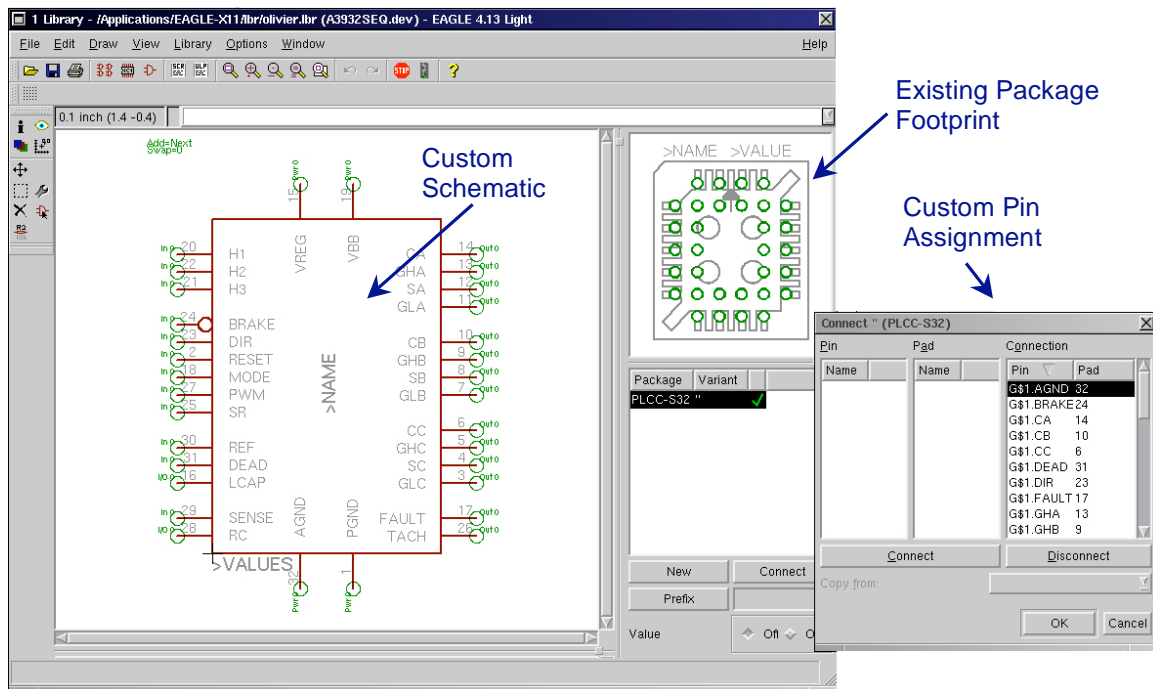

Figure 5: Creating a custom device in *Eagle* using an existing PLCC-S32 footprint.
Eagle contains a vast collection of parts in the default libraries however it is likely that certain parts may not exist. If this is the case, a custom device must be created. The most time consuming part of creating a custom device is defining the package footprint. In the *vast* majority of cases, an existing footprint can be re-used from a device in the *Eagle* library. Before wasting effort creating a custom footprint, ensure that it does not already exist in the *Eagle* library. An example of a custom device is shown in Figure 5. The following high-level instructions explain how to define a custom device in *Eagle*:
6. A custom device can be created by linking the new symbol to the package definition, as shown in Figure 5. Create a new device by clicking the *device* button in the Library window.